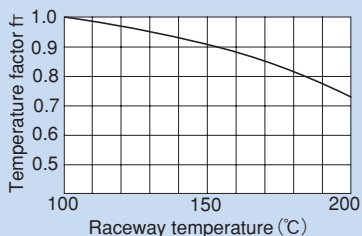

Fig. 3 Temperature factor (f_T)
- f_T : Temperature factor (see Fig. 3 on page I-10)
If the temperature of the atmosphere surrounding the operating LM Roller exceeds 100°C, take into account the adverse effect of the high temperature and multiply the basic load ratings by the temperature factor indicated in Fig. 3.